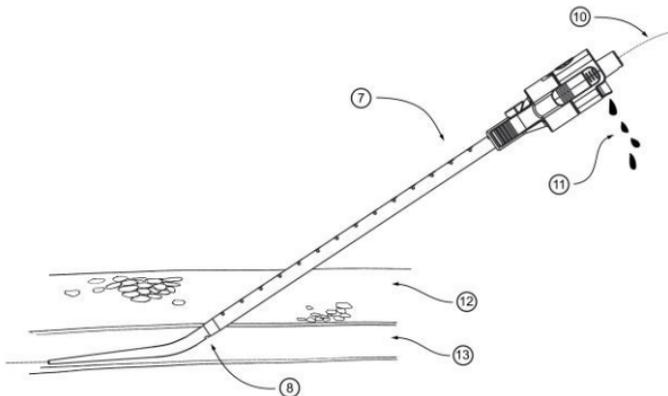

Figure 2. Blood signal when the Introducer-sheath is in the vessel
- a. Backload the *in situ* 0.035" guidewire into the PerQseal® Introducer until it emerges from and clear of the rear of the Dilator-hub (10, Fig. 2).
- c. Advance the PerQseal® Introducer into the vessel at a low angle ($\leq 30^\circ$) until there is a blood signal evident from the Dilator-hub side port (11, Fig 2). Stop advancing at this point (see Figure 2).